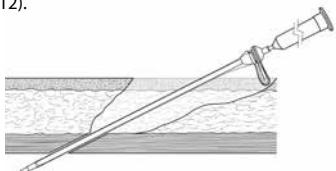

Figure 12
2. Aim distal tip of scope into the air pocket by making the scope more parallel with the abdomen (Figure 12).